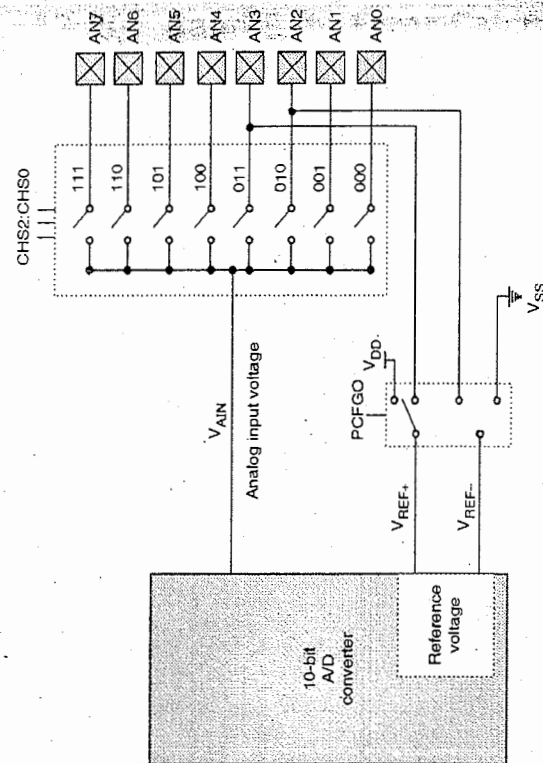

Fig. 13.3.1 : PIC ADC Block Diagram
- (vii) The A/D conversion time is decided by the crystal oscillator connected to OSC1 and OSC2 pins of PIC18F458. It has to be greater than 1.6 ms. Fig. 13.3.1 shows the PIC18 ADC Block Diagram.